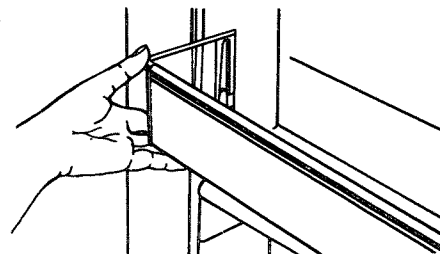

Figure 34
- Pull shelf straight up. See Figure 34.